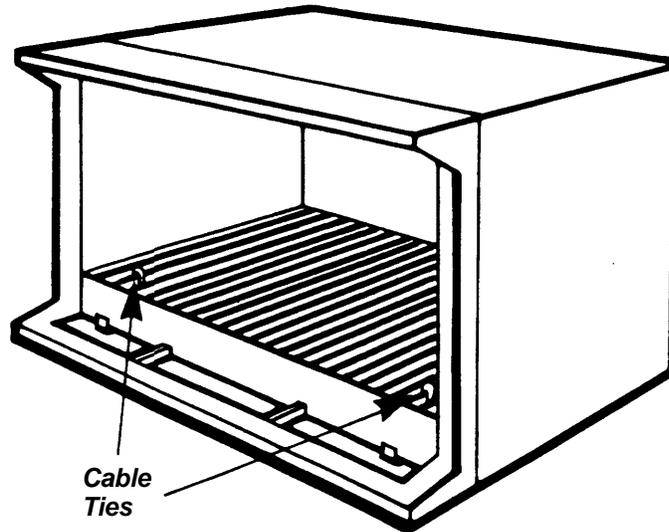

Figure 8.
4. Insert a cable tie around each bracket and the second plastic rib in from each side of the control unit cabinet. Slide the tips of the cable ties through the loops at the other end. Pull on the tips to tighten the cable ties, anchoring the cabinet into place (Figure 8).